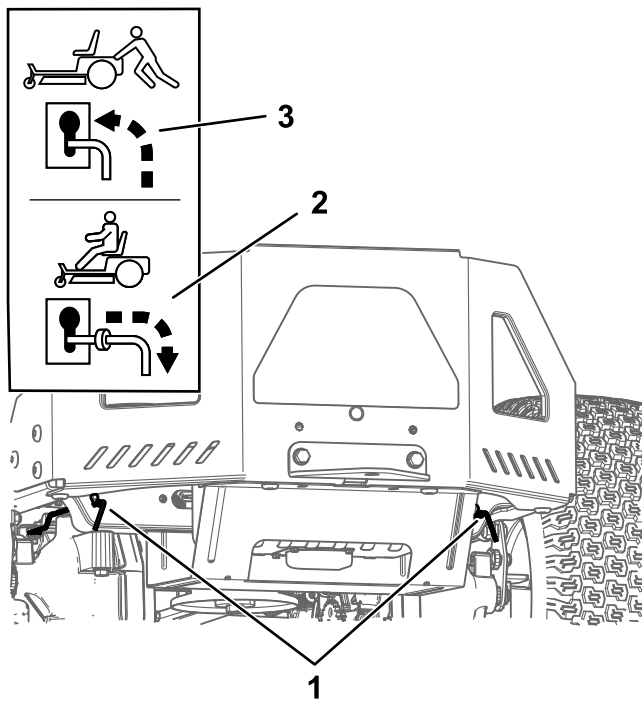

Figure 27
4. Move both bypass levers forward through the slotted hole and down to lock them in place (Figure 27).